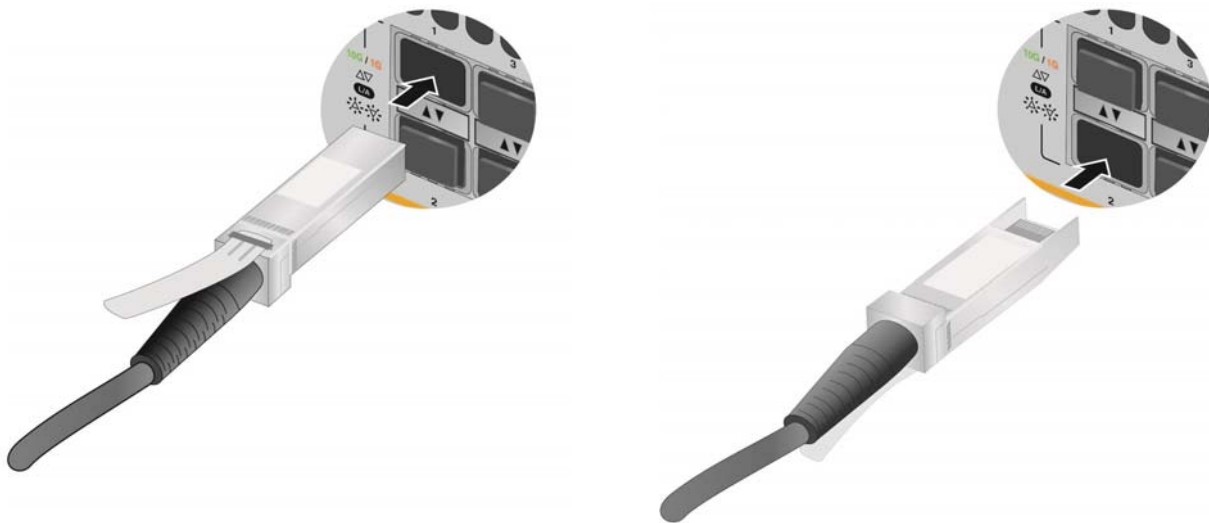

Figure 60. Installing AT-SP10TW Cables
3. To install the transceiver in a slot in the top row, position the transceiver with the Allied Telesis label facing up. To install the transceiver in a slot in the bottom row, position the transceiver with the label facing down. Refer to Figure 60 on page 101.